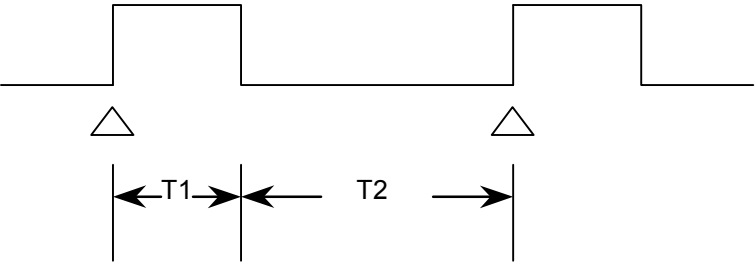

Fig. 2.6.2-3 Trigger signal input conditions
- Waveform: Fig. 2.6.2-3 shows a waveform for the rising edge.